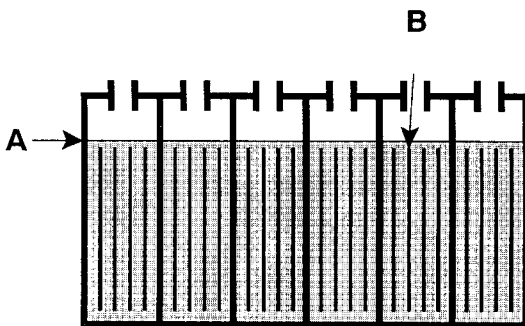

FIG. 22.
- Check water level (A) in each battery cell. Do not charge batteries unless water is slightly covering battery plates (B). If needed, add just enough distilled water to slightly cover plates. DO NOT overfill. Batteries can overflow during charging due to expansion. Replace cell caps before charging. (Figure 22)